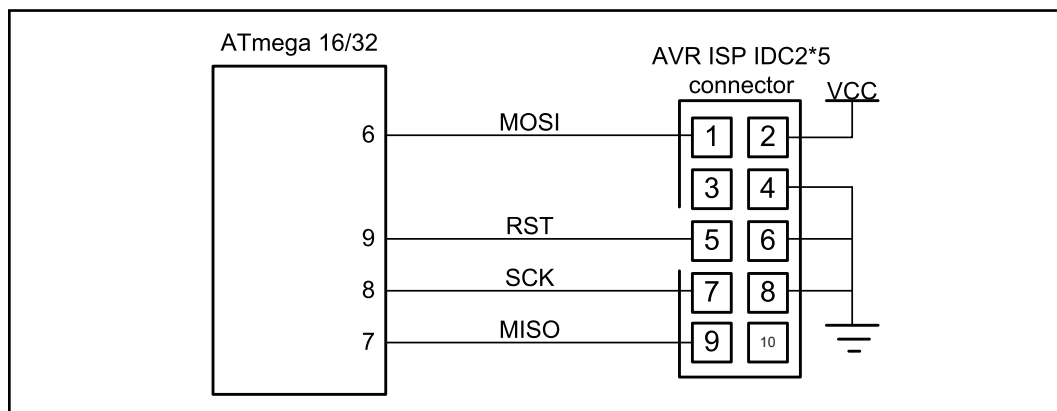

Figure 11. ISP 10-pin Connections (See www.Atmel.com for 6-pin version)
2. **An in-circuit serial programmer (ISP)** allows the developer to program and debug their microcontroller while it is in the system. This is done by a few wires with a system setup to accept this configuration. In-circuit serial programming is excellent for designs that change or require periodic updating. AVR has two methods of ISP. They are SPI and JTAG. Most of the ATmega family supports both methods. The SPI uses 3 pins, one for send, one for receive, and one for clock. These pins can be used as I/O after the device is programmed. The designer must make sure that these pins do not conflict with the programmer. Notice that SPI stands for "serial peripheral interface" and is a protocol. But ISP stands for "in-circuit serial programming" and is a method of code loading. AVRISP and many other devices support ISP. To connect AVRISP to your device you also need to connect VCC, GND, and RESET pins. You must bring the pins to a header on the board so that the programmer can connect to it. Figure 11 shows the pin connections.